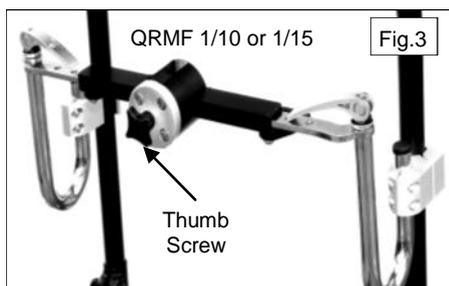

Fig.3
Release Mounting Frames Fig.3.
- When being used in conjunction with an RMS Quick Release Mounting Frame Fig.3, this should be fitted to the wheelchair backrest frame as per the fitting guidelines supplied with that device.
- With the selected Headrest Stem Receiver in place, unscrew the black thumb-screw Fig.3, sufficient to allow the Headrest Stem to be inserted into the Receiver.